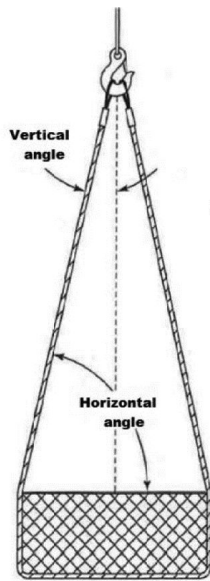

Figure 7
- Angle of loading (see Figure 7, Angle of Loading);
(b) You must prohibit the use of horizontal sling angles less than 30 degrees unless recommended by the sling manufacturer or a qualified person. See Figure 7.